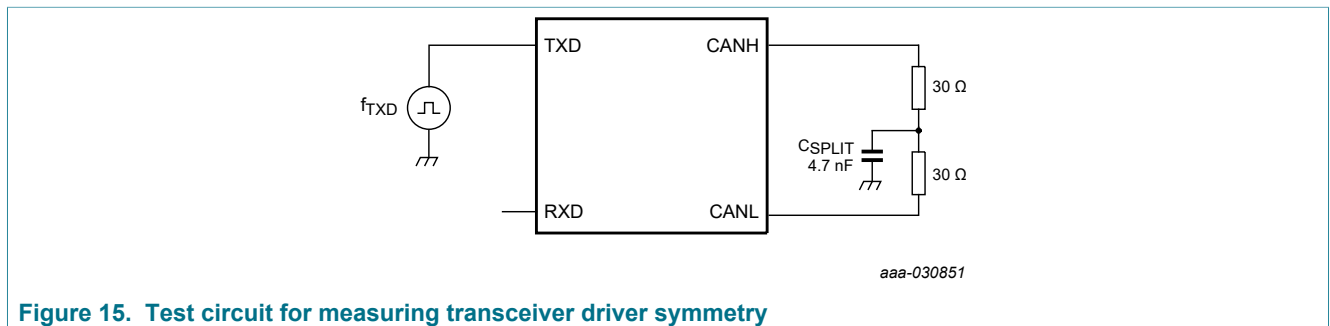

Figure 15. Test circuit for measuring transceiver driver symmetry
- [5] The test circuit used to measure the bus output voltage symmetry (which includes  $C_{\text{SPLIT}}$ ) is shown in Figure 15